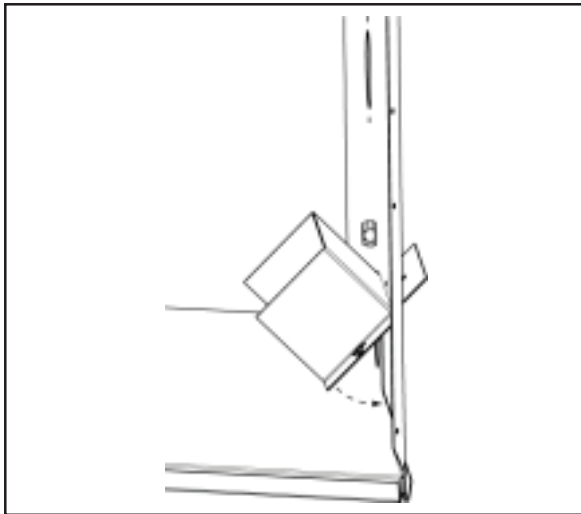
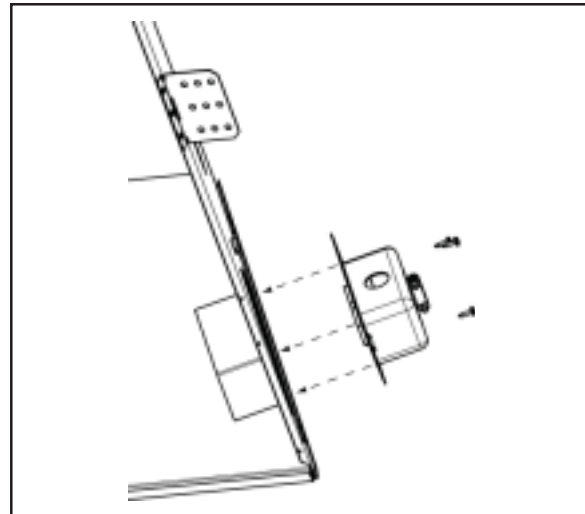

Figure 12 - Attaching the Heat Shield
Figure 13 - Attaching the Junction Box
- c. Prior to attaching the junction box to the appliance, the heat shield supplied with your appliance must be installed. Insert the top flange of the heat shield through the electrical knockout hole from the inside (Figure 12), then insert the JK9 through the hole and attach with three screws. See Figure 13.